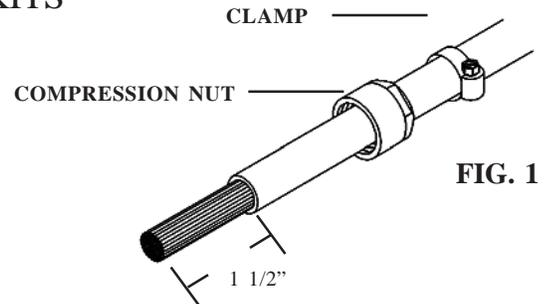

FIG. 1
1) Strip the fiber jacket back approximately 1 1/2". **FIG. 1**
2) Slide the clamp and compression nut over the fiber jacket. **FIG. 1**